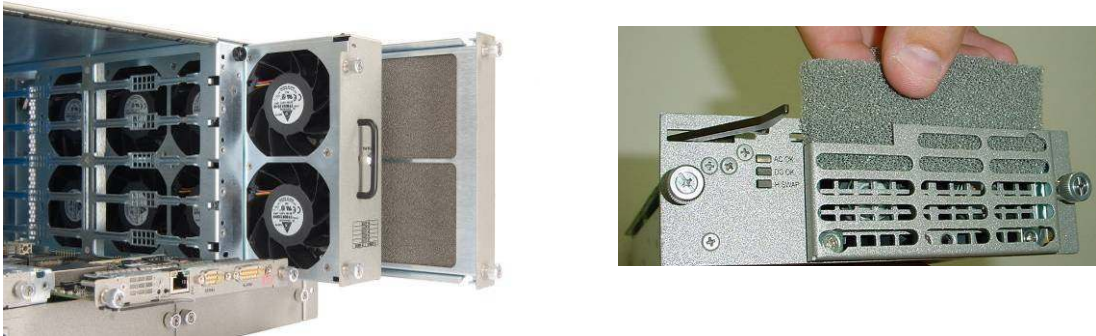

Figure 20 – Shelf Air filter and Power supply air filter extraction
- Figure 20 – Shelf Air filter and Power supply air filter extraction